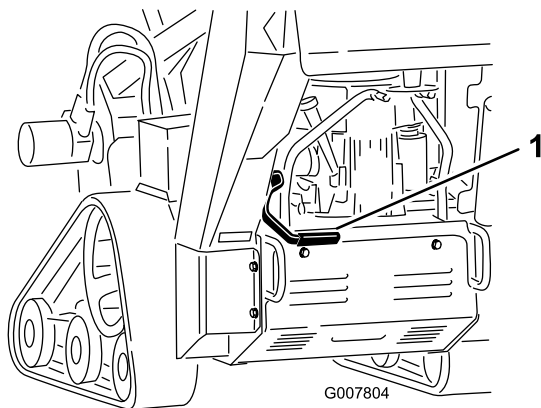

Figure 17
- To engage the parking brake, pull the brake lever rearward and up (Figure 17).
- To disengage the parking brake, pull the lever rearward and then down (Figure 17).